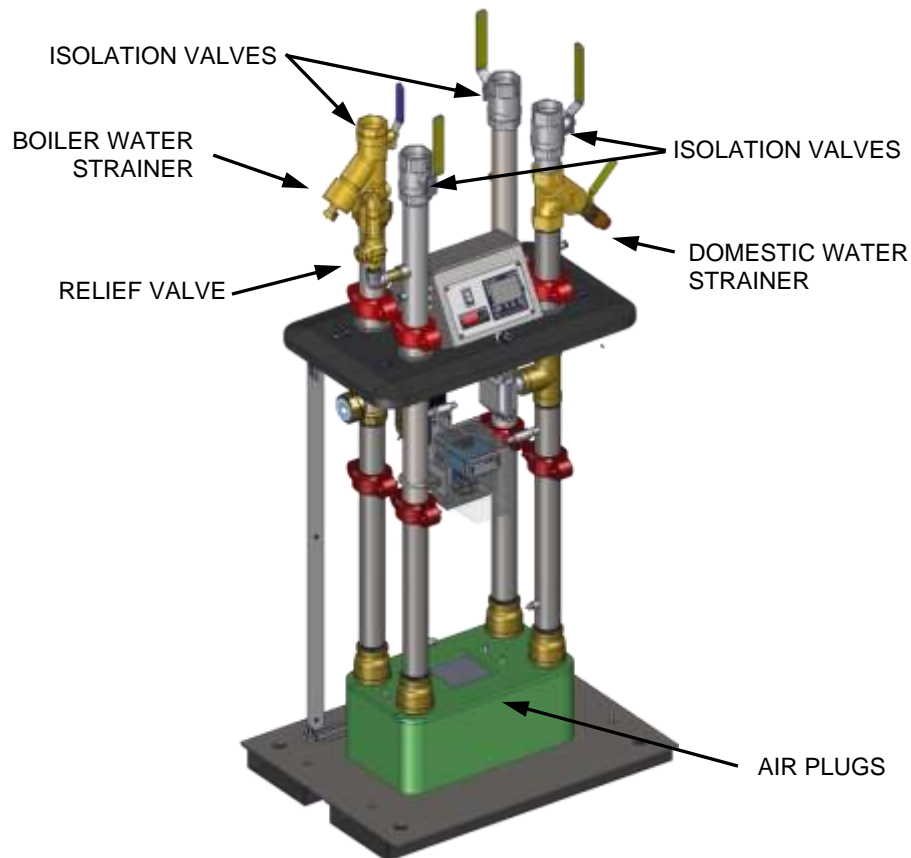

Figure 5.3. Typical SmartPlate EV Piping
3. Connect a drain hose to Strainer on the Boiler Water side of piping assembly (Figure 5.3).